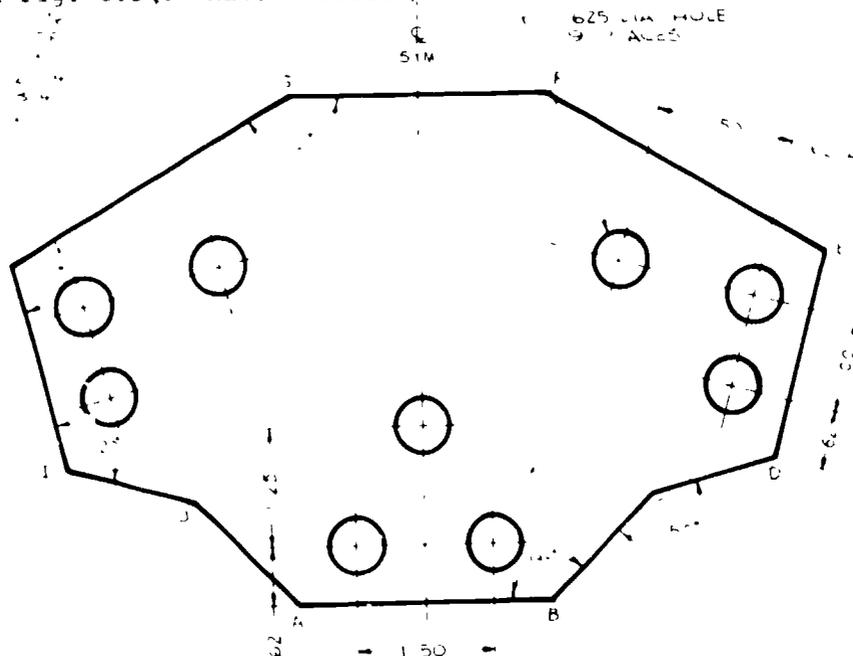

Figure 1.12
4. Make a full scale pencil instrument drawing of the GUSSET in Fig. 1.12. Draw on a 9" x 12" sheet of vellum with a 1/4" border and use title block as shown in Fig. 3.14. Make a diazo print of the finished drawing.